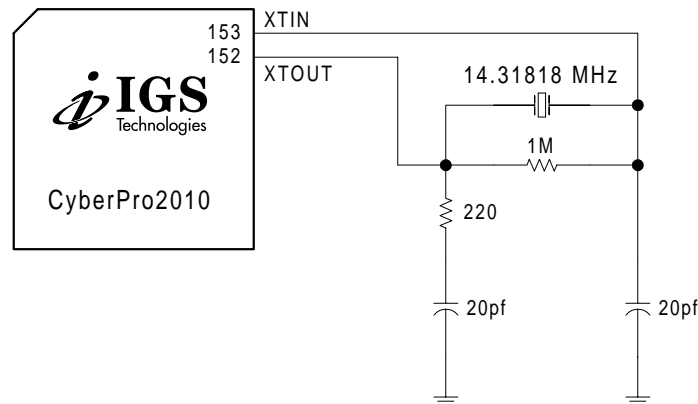

Figure 2-2: Crystal Schematic (Option)
1. The crystal circuit must be as shown in Figure 2-2.